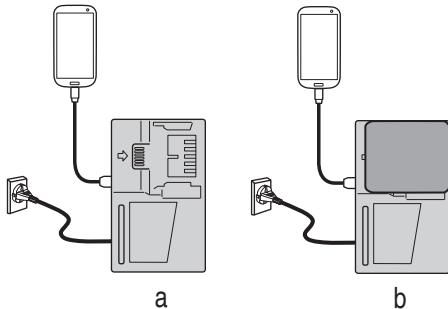

Fig. 19
- Charging a USB device from a electrical outlet (**Fig. 19-a**).
- Charging a USB device and battery from a electrical outlet. (**Fig. 19-b**)